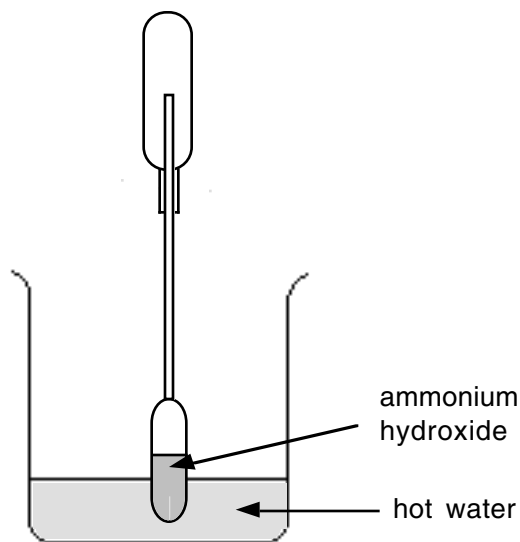

Figure 7 The set up for generating and collecting ammonia gas
4. Cut off the bulb of a graduated transfer pipet to use as a gas-collection bulb. Place it over the stem of the transfer pipet half filled with ammonium hydroxide. (*see Figure 7*).